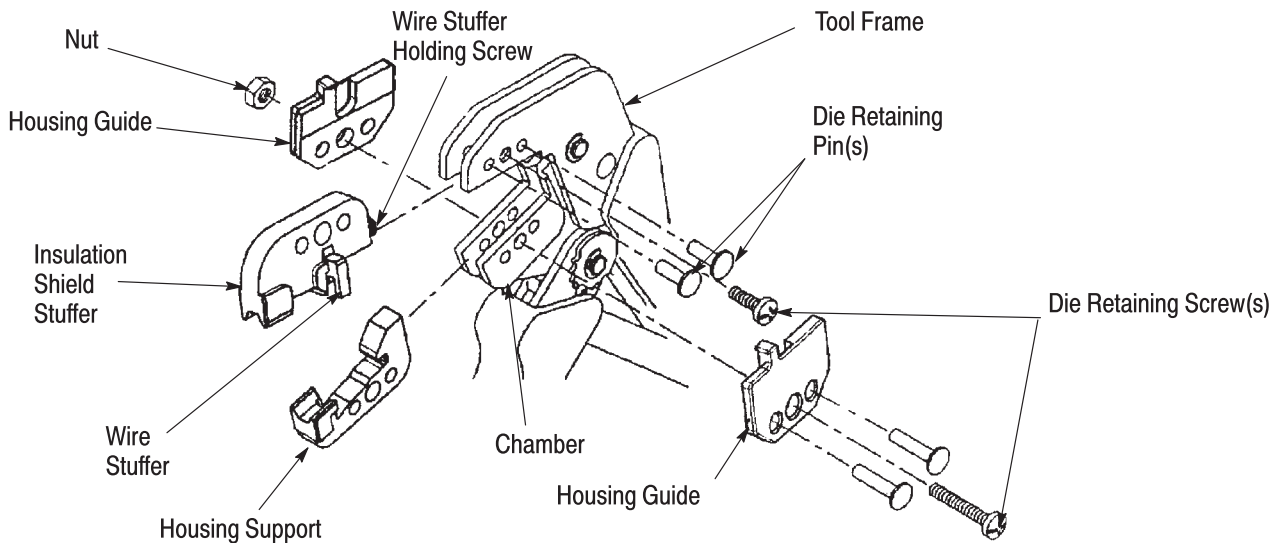

Figure 2
**2. DESCRIPTION** (Figure 1 and Figure 2)
### 3. DIE SET INSTALLATION AND REMOVAL (Figure 2)
2. Place the insulation–connector shield/wire stuffer assembly as shown in Figure 2. Insert the short die retaining pins and short die retaining screw through the tool frame and tighten the screw.
3. Place the housing support in the moving jaw of the tool frame as shown in Figure 2. Mount the right hand housing guide using the long die retaining pins and secure with the long die retaining screw. Mount the left hand housing guide and tighten the nut.